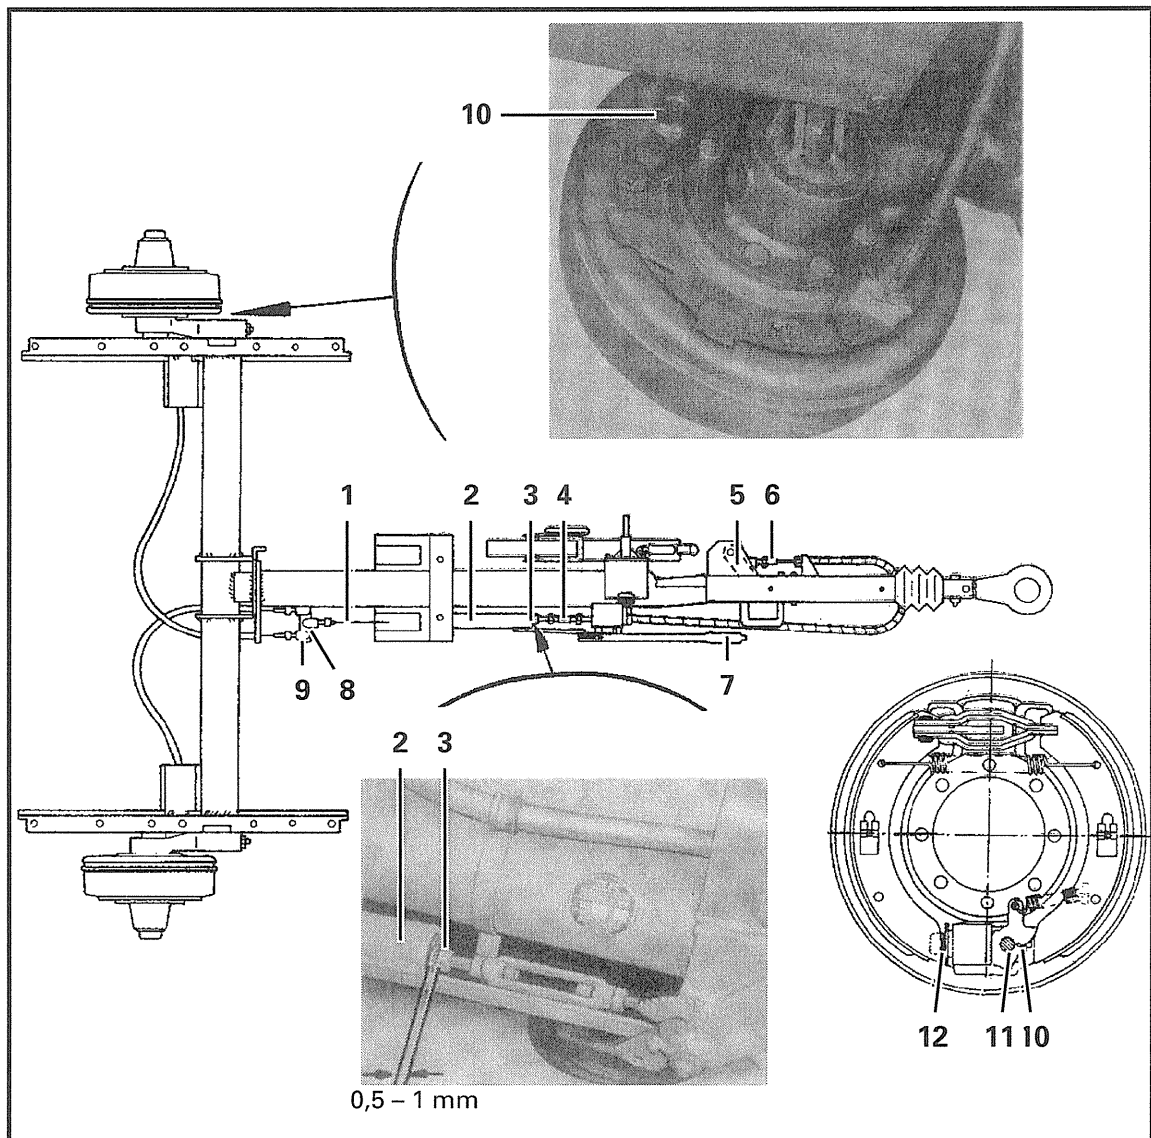

Fig. 103
(1) Variant 1
- Check the position of the compensating bridge (103/8). It must be positioned at a right angle to the brake linkage (103/1) (according to Fig. 103). If necessary, correct its position by means of the fork heads (103/9).